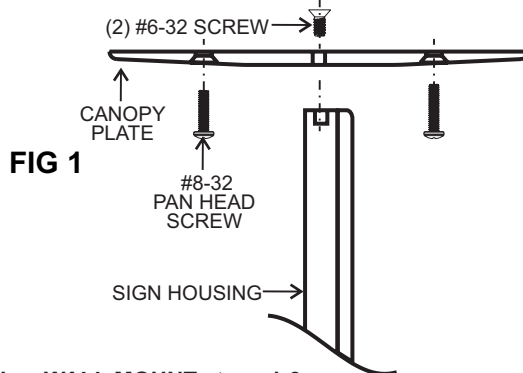

FIG 1
1. SEE FIG. 1. Install J-Box 1/8"-1/4" below finished panel surface. Connect Power Module AC wiring to building supply in J-Box, using wire nuts or connectors supplied.
3. See Fig. 1 and 2 above. Route LED connector through slot in top of housing and through canopy. Secure Canopy to Housing using 2 #8-32 x 5/8 flat head screws.